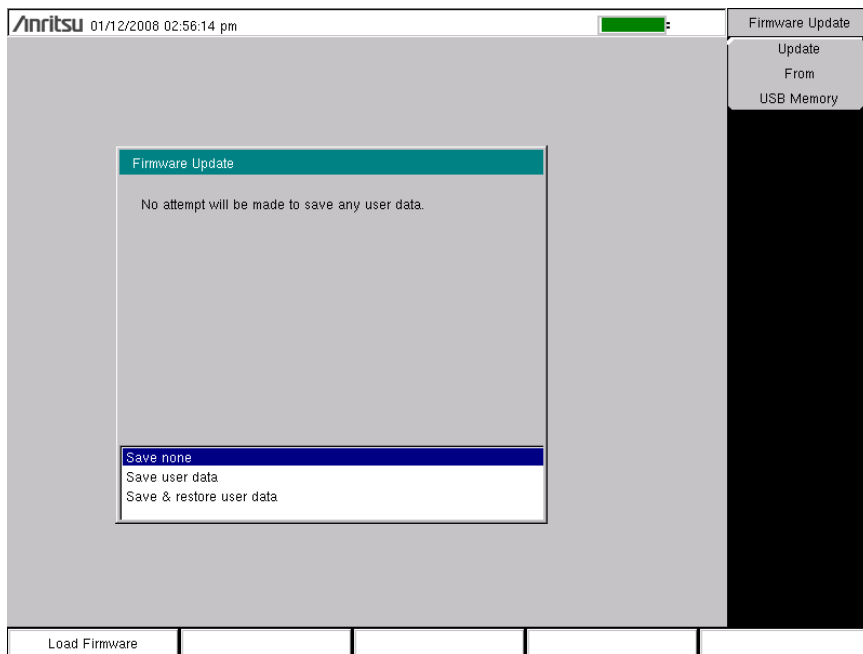

Figure E-5. Firmware Update Menu
3. The Firmware Update menu is displayed, the Firmware Update dialog box (Figure E-5) shows “Save none” selected, and a cautionary statement is displayed regarding user data. Use the **Arrow** keys to select an option. The choices are: